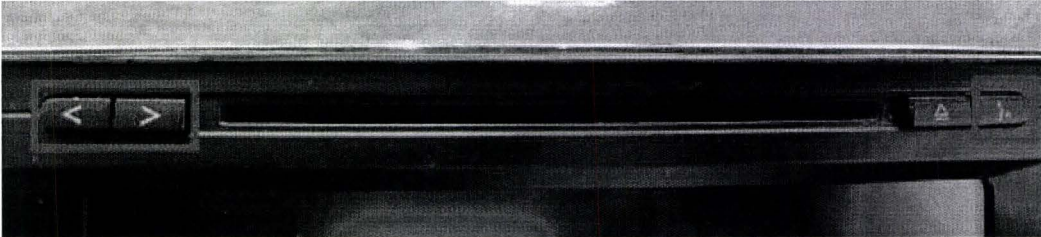

Figure 1
- b. Almost simultaneously, but ensuring the two buttons on the left are press slightly before, press and hold the three buttons at the top of the infotainment unit screen (see Figure 1)